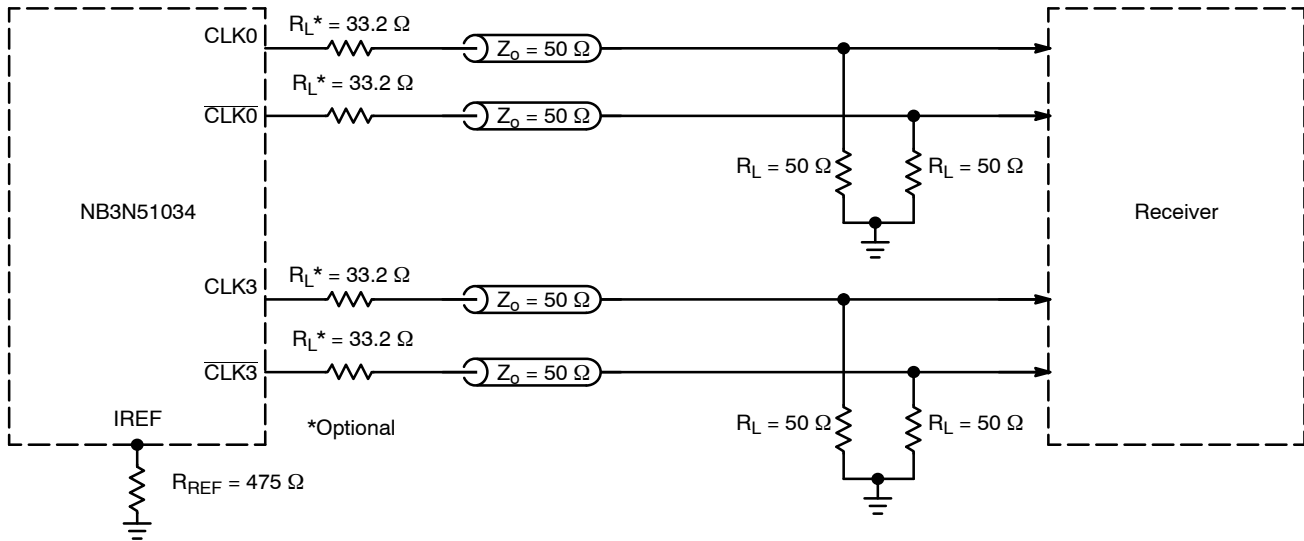
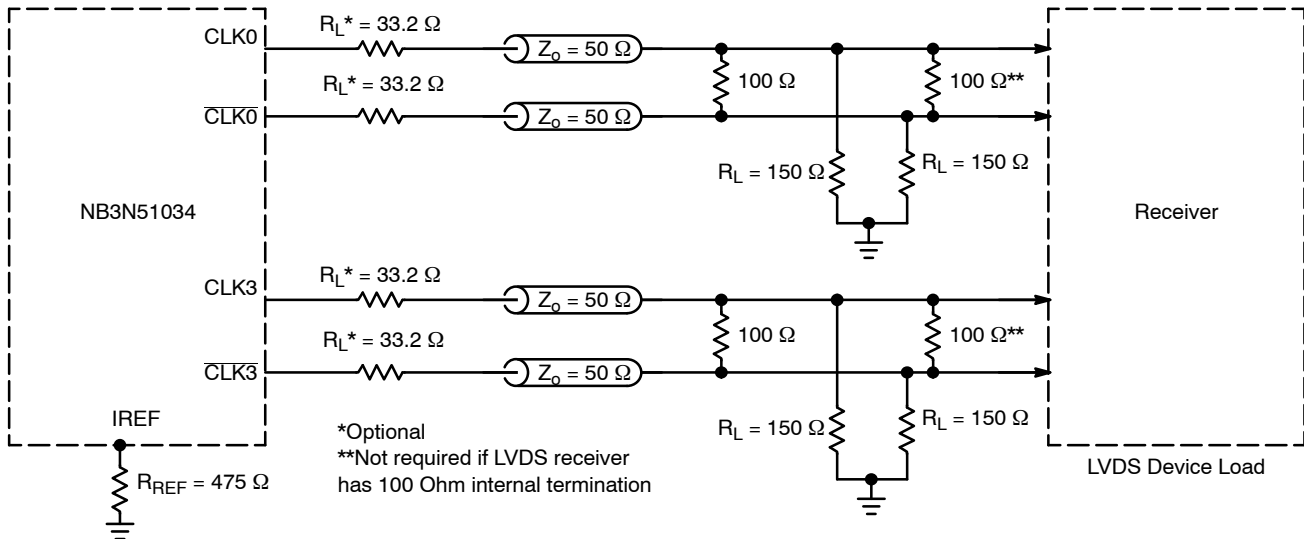

Figure 7. Typical Termination for HCSL Output Driver and Device Evaluation
Figure 8. Typical Termination for LVDS Device Load
4. VDDXD and VDDODA power pins must be shorted to power supply voltage V_{DD} and GNDXD and GNDODA ground pins must be shorted to power supply ground GND. Measurement taken with outputs terminated with R_S = 33.2 Ω, R_L = 50 Ω, with test load capacitance of 2 pF and current biasing resistor set at 475 Ω. See Figure 7. Guaranteed by characterization.
12. VDDXD and VDDODA power pins must be shorted to power supply voltage V_{DD} and GNDXD and GNDODA ground pins must be shorted to power supply ground GND. Measurement taken from differential output on single-ended channel terminated with $R_S = 33.2\ \Omega$, $R_L = 50\ \Omega$, with test load capacitance of 2 pF and current biasing resistor set at 475 Ω . See Figure 7. Guaranteed by characterization.
19. VDDXD and VDDODA power pins must be shorted to power supply voltage V_{DD} and GNDXD and GNDODA ground pins must be shorted to power supply ground GND. Measurement taken from differential output on single-ended channel terminated with R_S = 33.2 Ω, R_L = 50 Ω, with test load capacitance of 2 pF and current biasing resistor set at 475 Ω. See Figure 7. This parameter is guaranteed by characterization. Not tested in production.
The outputs can be terminated to drive HCSL receiver (see Figure 7) or LVDS receiver (see Figure 8). HCSL output interface requires 49.9 Ω termination resistors to GND for generating the output levels. LVDS output interface may not